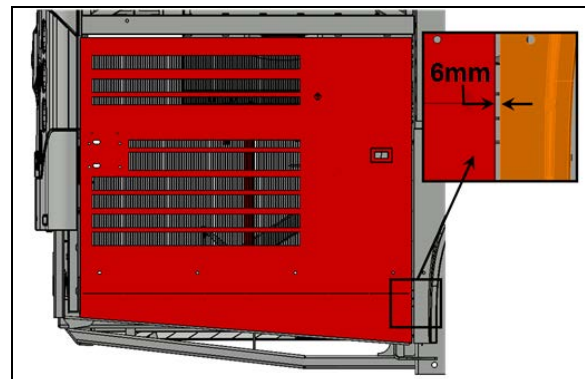

FIGURE 50
- Check the gap between the door and the adjacent panel at the level of the lower attachment point of the arm on the door. The gap should be $\frac{1}{4}$ " (6 mm) (FIGURE 50).